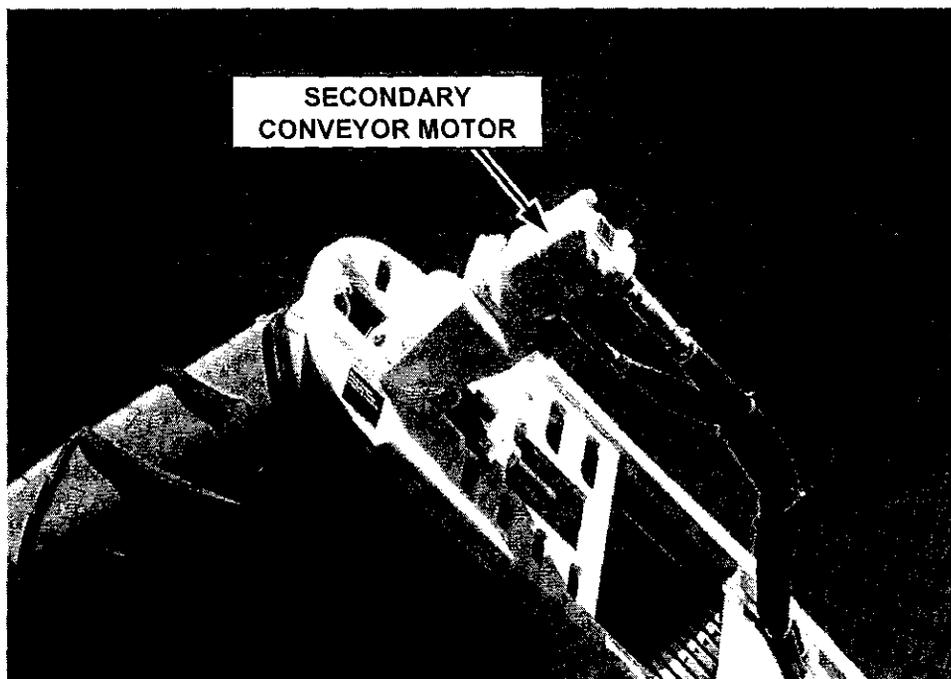

FIGURE 8
**SECONDARY CONVEYOR MOTOR** – The secondary conveyor motor is a 19.9 cubic inch Sauer Danfoss OMT 315 (figure 8).